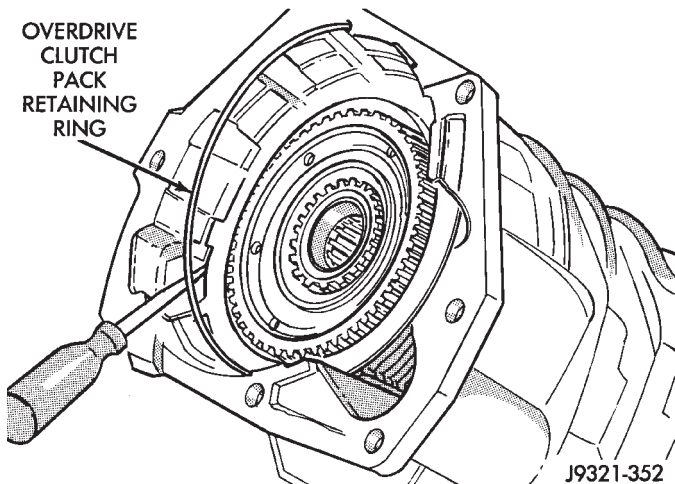

Fig. 196 Removing Overdrive Clutch Pack Retaining Ring
- (1) Remove overdrive clutch pack wire retaining ring (Fig. 196).